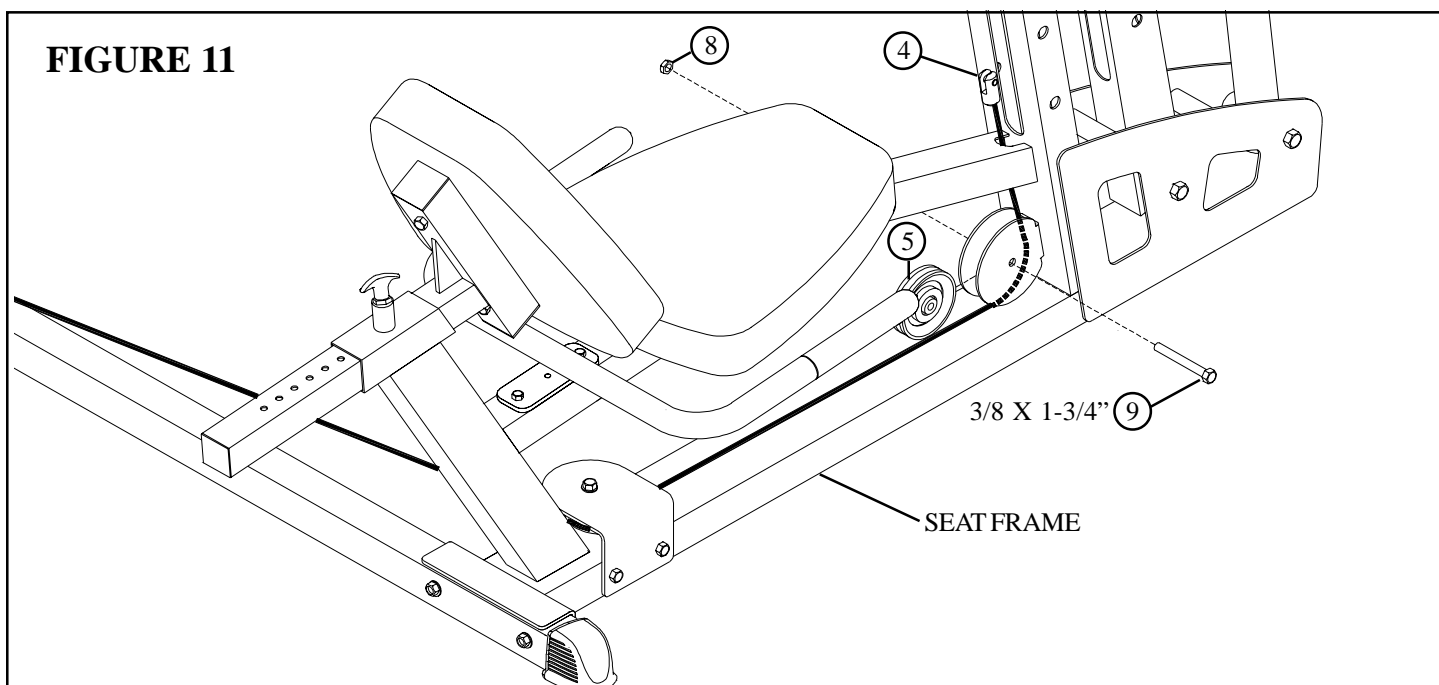

FIGURE 11
- Carefully route the LEG PRESS CABLE (4) around one 3-1/2" PULLEY (5) and **SECURELY** assemble the 3-1/2" PULLEY (5) to the bracket on the SEAT FRAME using one 3/8 X 1-3/4" BOLT (9) and one 3/8" LOCK NUT (8) as shown in FIGURE 11 . Make sure the CABLE is in the grooves of all the pulleys.